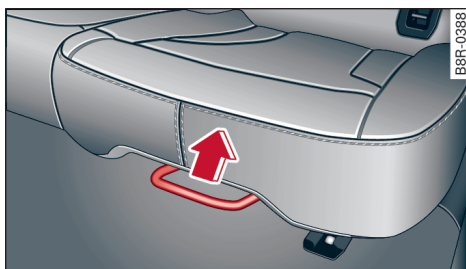

Fig. 49 Adjusting the seat position
- ▶ To move the seat forwards/backwards, pull the lever ⇨ *Fig. 49* and move the seat.